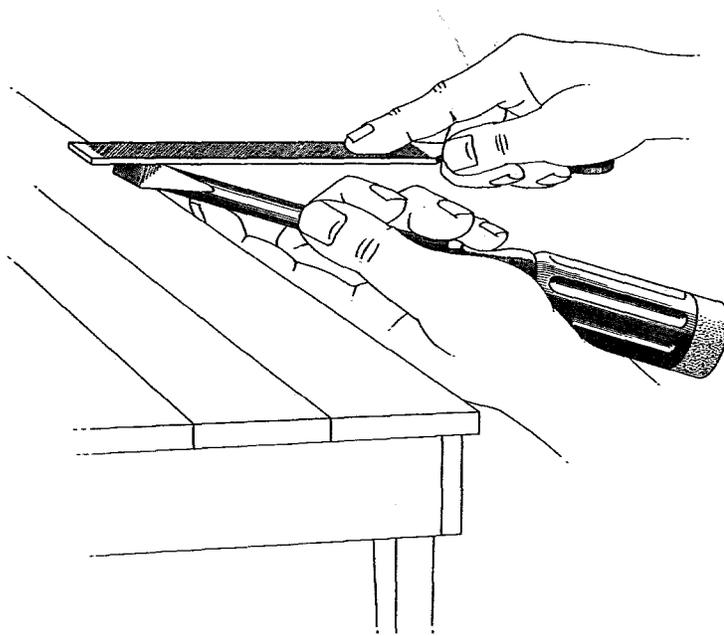

Fig. 7
5.10 The edges of the blade should then be dressed down restoring the width at the tip to its original size as closely as possible. The screwdriver should be held in the vise as outlined in 5.07. If a vise is not available hold the screwdriver and file as shown in Fig. 7 applying the file as outlined in 5.09.